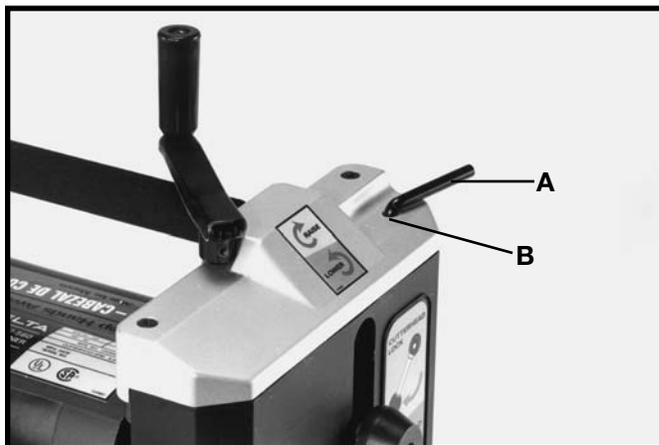

Fig. 23
The wrench and wrench holder (A) Fig. 23, can be stored in hole (B) located on the right rear side of the machine as shown.